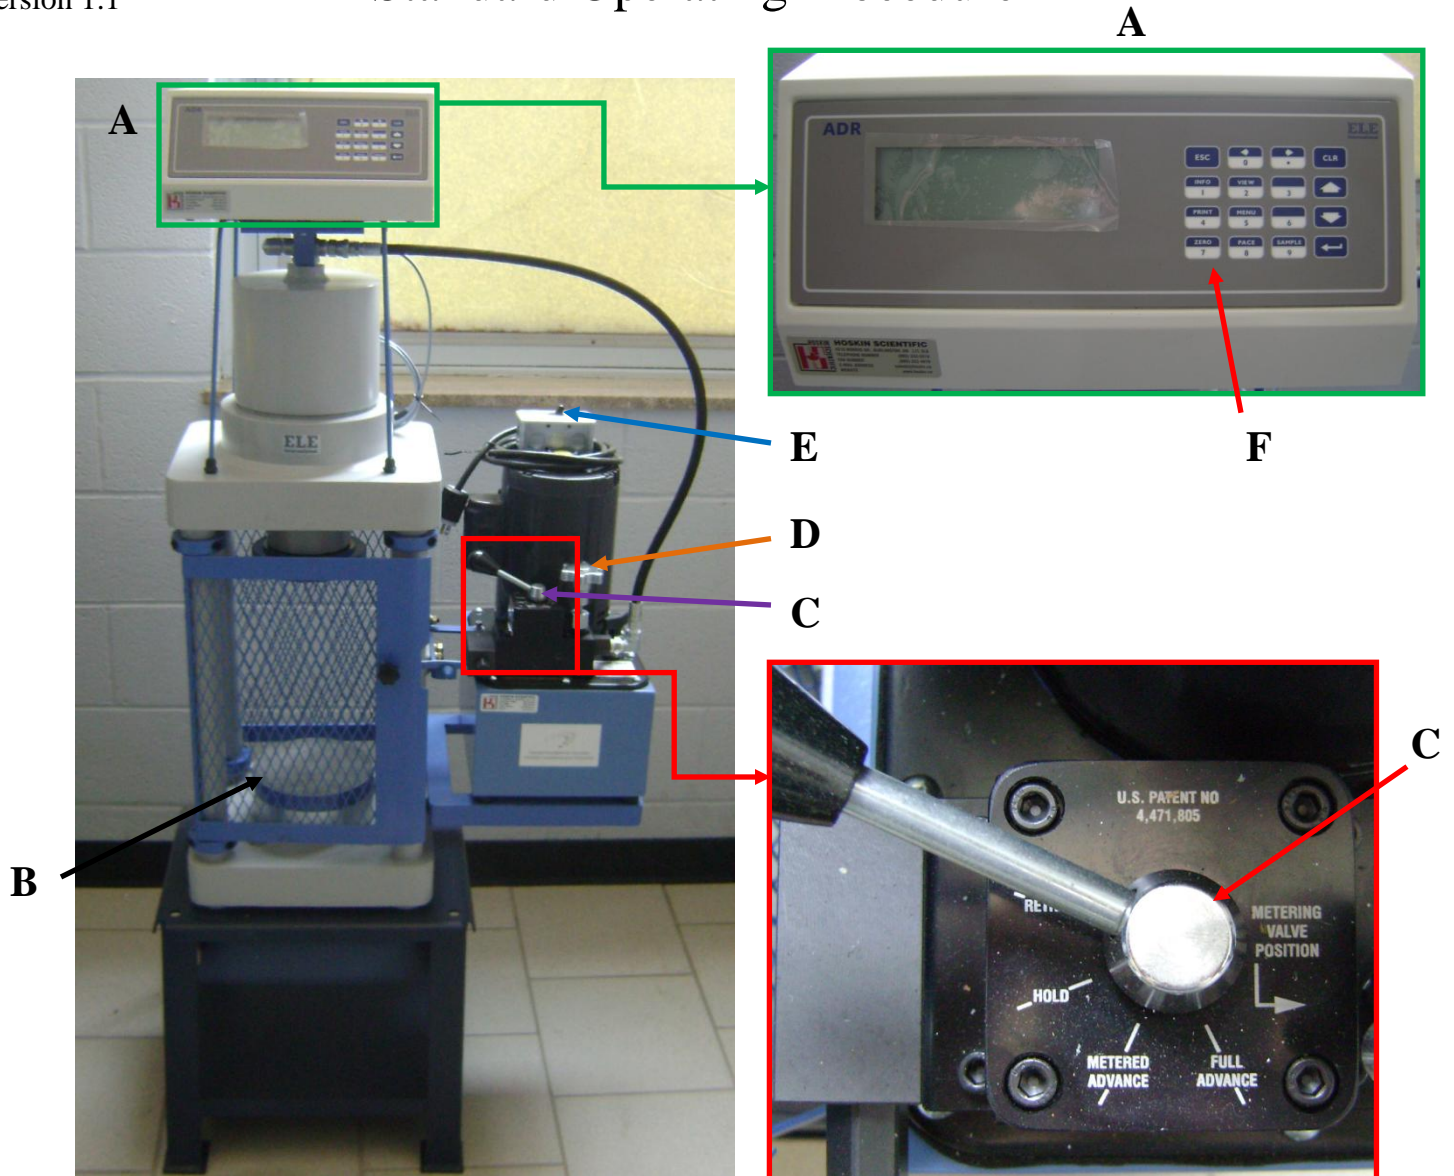

Figure 1. ELE Compression Tester
A. WARM UP THE ELECTRONIC CONTROL BOX **Figure 1 (A)**
B. Place the specimen on the top of the lower platen. **Figure 1 (B)**
C. Set Parameters/Controls on Electronic Control Panel. **Figure 1 (A)**
1. With the control handle on **RETRACT** position **Figure 1 (C)**, turn the metering valve knob fully clockwise (**D**). Turn the hydraulic pump on by pushing the toggle switch to the **ON** position (**E**).
2. Check that there is approximately ¼” clearance between the upper platen and the concrete specimen before starting compression. Turn the control handle to **FULL ADVANCE** position (**C**), watching until the upper platen is within 1/8” of the specimen. Turn the control handle to **METERED ADVANCE (C)** and press **TARE** key (**F**) to zero the reading. The display will read “000000”. The red bar on the Pace Deviation Rate display will appear at the extreme left.